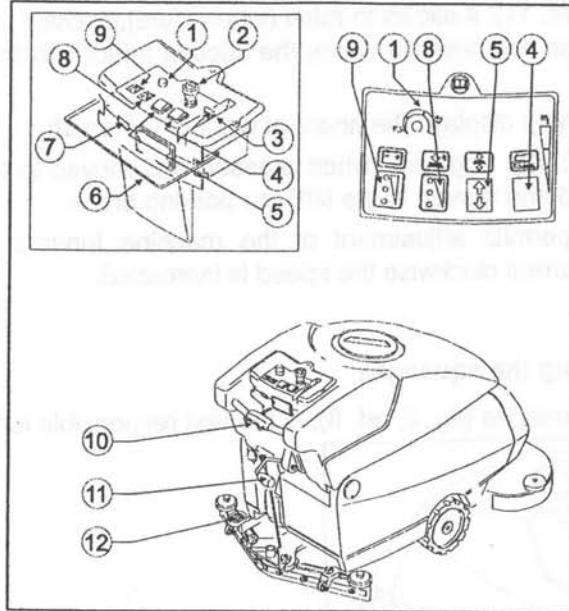
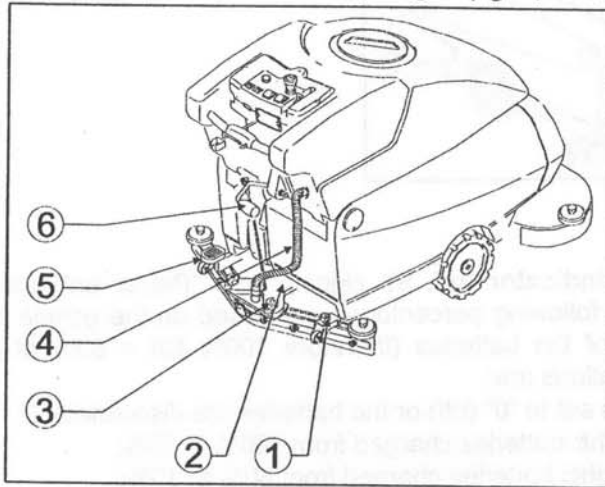
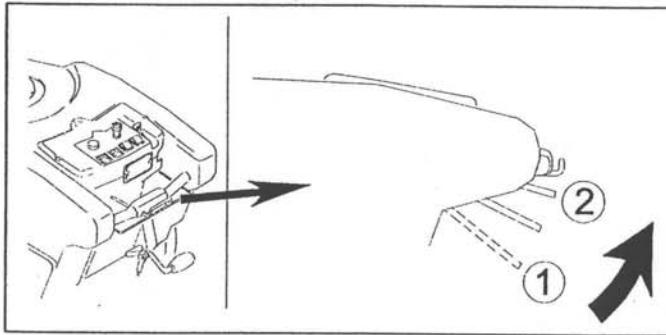

Fig. 8
Fig. 9
Fig. 10
- 1) Stop the machine and press the emergency button (fig. 8, ref. 2); engage the parking brake by means of the pedal (fig. 8, ref. 12);
With reference to fig. 8 the machine has the following controls and leds:
- 1) Stop the machine and press the emergency button (fig. 8, ref. 2); engage the parking brake by means of the pedal (fig. 9, ref. 5);
- 2) check that the squeegee supporting plate (fig. 9, ref. 2) is raised, otherwise lift it by acting on the proper lever (fig. 9, ref. 6);
- 3) firmly push down the sleeve of the suction tube (fig. 9, ref. 4) into the squeegee;
- 4) slacken the two knobs (fig. 9, ref. 3) placed in the centre of the squeegee;
- 5) insert the two threaded dowels in the slots of the support (fig. 9, ref. 2);
- 6) fix the squeegee by tightening the knobs (fig. 9, ref. 3).
To obtain a perfect drying action it is necessary to adjust the squeegee in such a way that when it is in operation, the rear blade lip is bent about 45 degrees with respect to the floor at all points. It is possible to adjust the inclination of the blades by screwing down the nuts (fig. 9, ref. 1): by unscrewing the nuts the blade inclination is reduced, while by screwing the nuts the blade inclination is increased.
- raise the head by pressing the brush up-down button (fig. 8, ref. 5) on the arrow up;
- disengage the parking brake via the pedal (fig. 8, ref. 12);
- insert the key to release the emergency button (fig. 8, ref. 2);
- below the handgrip is a lever (fig. 8, ref. 6): by pulling the lever up (fig. 10, ref. 2) or pressing it down (fig. 10, ref. 1), according to whether you wish to move forward or back, the drive motor is switched on and the machine will begin to move;
- adjust the running speed via the potentiometer (fig. 8, ref. 1);
- once you have reached your destination, engage the parking brake via the pedal (fig. 8, ref. 12).
- Raise the head by pressing the brush up-down button (fig. 8, ref. 5) on the arrow up;
- press the brush release button (fig. 8, ref. 4) for a couple of seconds: when the button is released, the brushes will be released.
- press the brush up-down button (fig. 8, ref. 5) on the arrow down and keep it pressed until the first led of the brush pressure indicator comes on (fig. 8, ref. 8); in this phase the brush motor may come on and then switch off for a few moments: this is a normal part of the brush engagement procedure.
- check that the cock control lever (fig. 8, ref. 3) is at the position "off";
- check that the squeegee (fig. 2, ref. 8) is fixed well and connected to the suction tube (fig. 9, ref. 4); make sure that the rear blade is not worn.